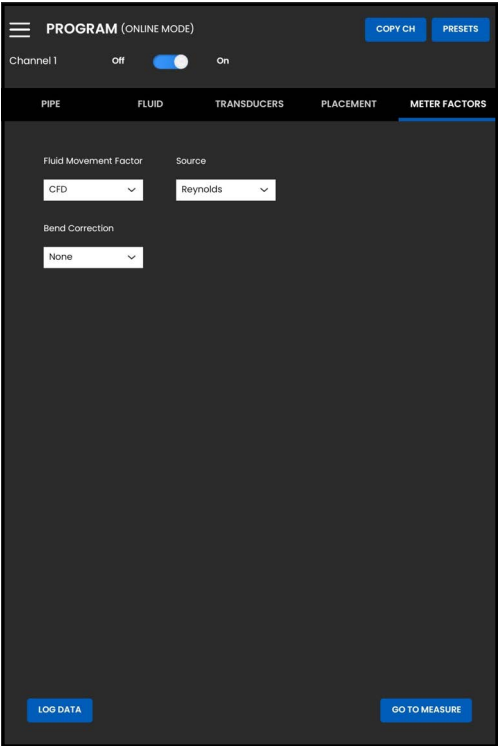

Figure 95: CFD Correction Menu
1. Flow velocity can be corrected using CFD calculations, especially for flow profile distortion caused by pipe bend. The correction factors to flow measurements can be based on the source of measured Reynolds number or velocity as shown in *Figure 95*.